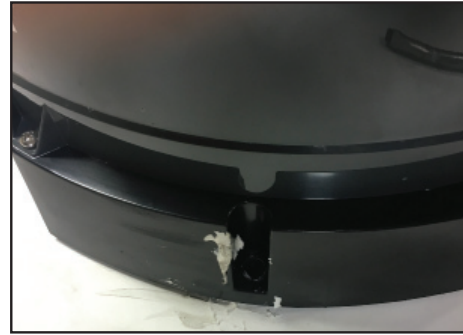

Figure 2
5. Locate the four satellite dish mounting screws under the self-leveling roof sealant by carefully peeling away the sealant with a putty knife. Remove each screw using a 1/4" hex head socket bit or Phillips bit in a cordless driver. Discard the original screws. See Figure 2 for reference.